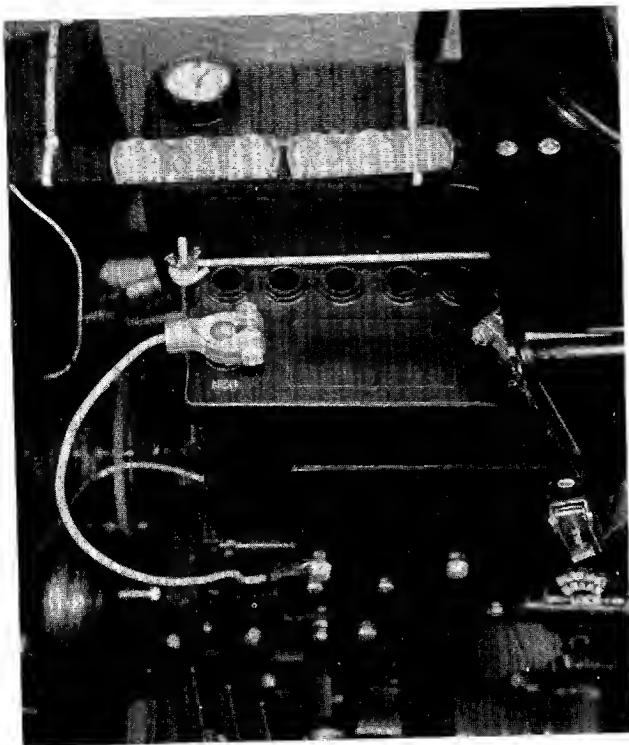

Figure 3
5. Place the battery hold down assembly over the battery and slide the battery into place. (See figure 3.) (The battery caps have been removed for clarity.)